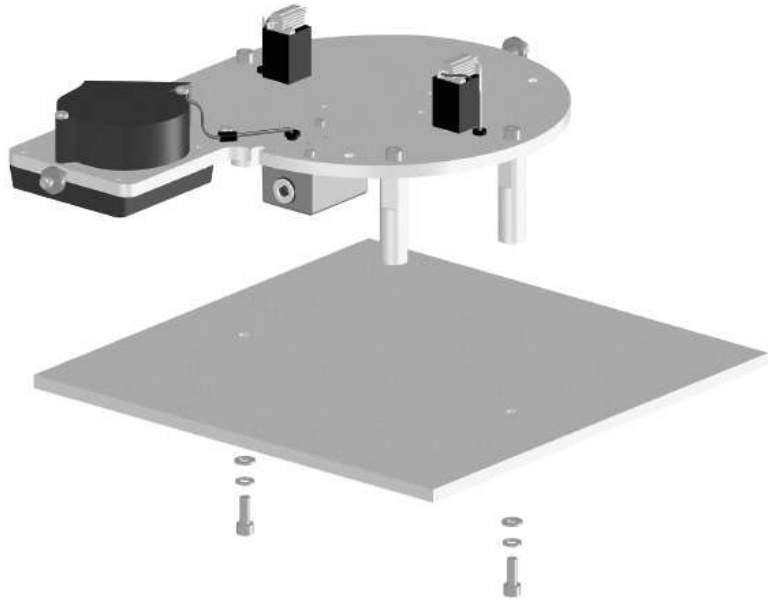

FIGURE C-6. Mounting CVF4 feet to a mounting stand
4. Fasten the CVF4's feet to the 31153 using the supplied washers and screws (FIGURE C-6).